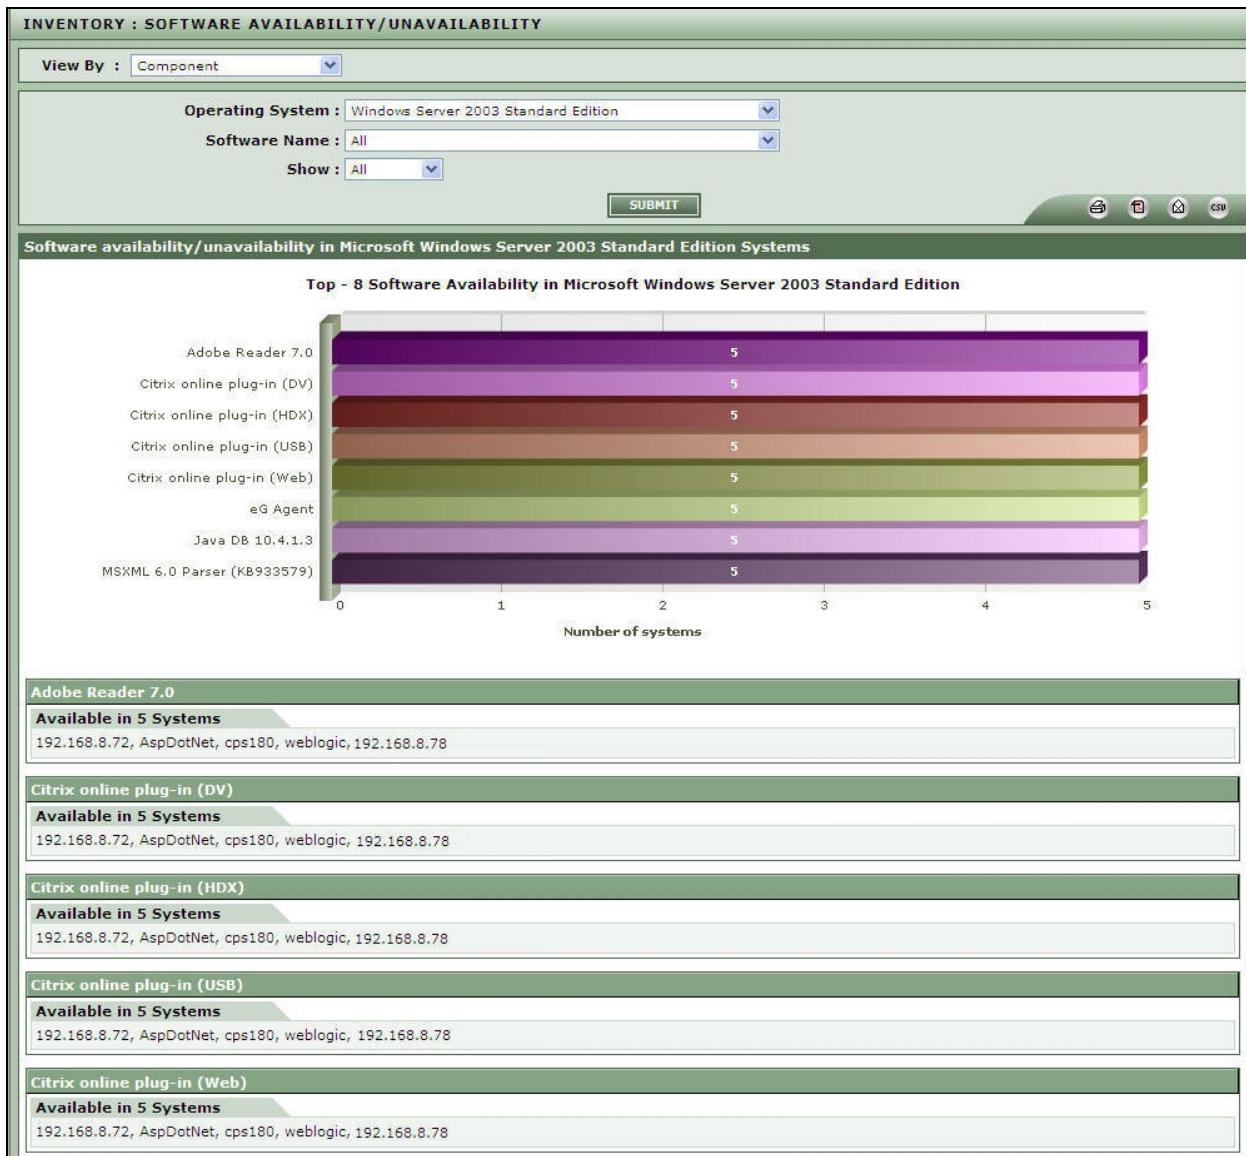

Figure 2.14: Viewing inventory across the softwares
1. Select an OS from the **Operating System** list as depicted in Figure 2.14.
4. Doing so will display a bar graph, depicting the availability of all the software installed on a specified OS. Below this graph you will also see a table providing the entire list of systems on which each software is currently available/unavailable as depicted in Figure 2.14.